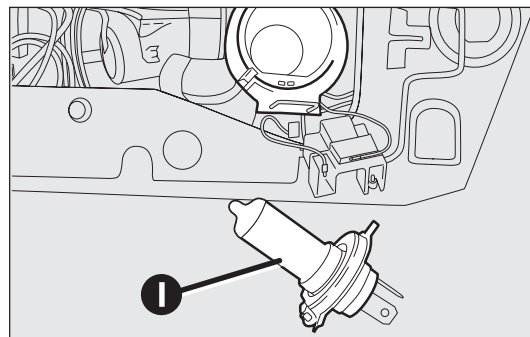

fig. 146
- ☐ remove the burnt bulb I-fig. 146 and fit the new one;